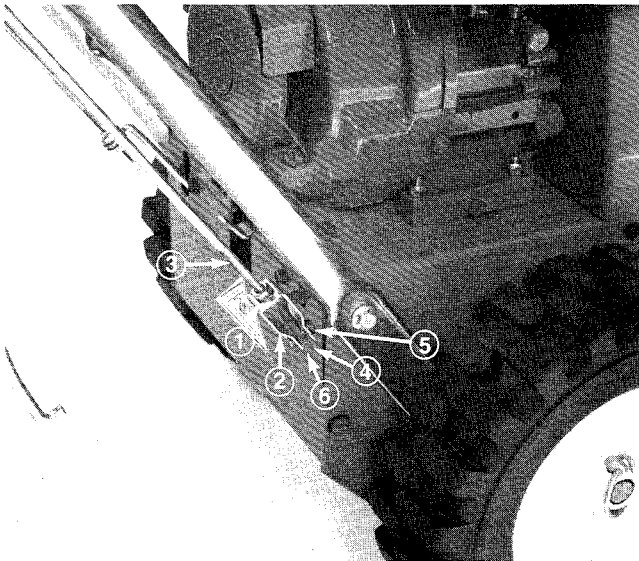

Figure 7
1. Loosen jam nut above clevis on upper control rod (Fig. 7).
5. After adjusted, install clevis pin and secure with cotter pin. Tighten jam nut to secure clevis (Fig. 7).
2. Align holes in clevis and lower control rod, install with clevis pin (Fig. 7).